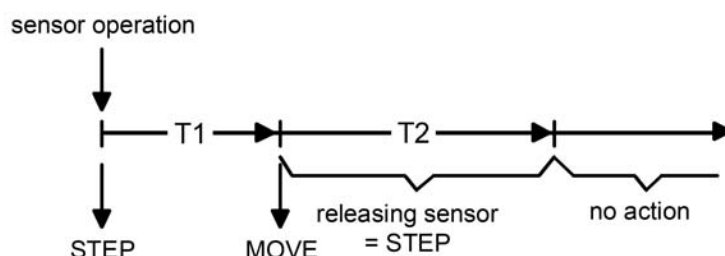

Figure 32: Telegram concept when a sensor surface of the channel function is touched "Venetian blind/shutter (Step/Move/Step)"
- Immediately on pressing a sensor surface the device transmits a short time telegram to the bus (figure 32), whereupon a running drive is stopped and the "time between short time and long time command" T1 is started internally. If the pressed sensor element is released again within T1, the device transmits no further telegram. This short time serves the purpose of stopping a continuous movement.